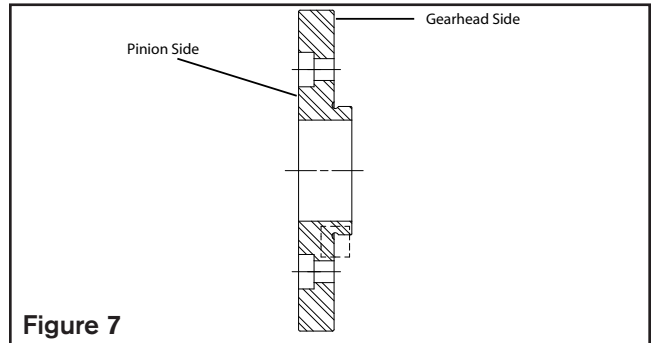

Figure 7
5. Clean the adapter flange and pilot where it will contact the gearhead flange inspecting for contaminates, burrs, or surface defects that would interfere with full contact between the adapter and gearhead flange. See Figure 7.